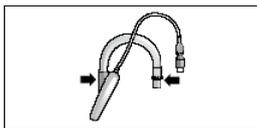

Figure 3: Airway kink test
- Flex the LMA Classic Excel™ airway tube up to, but not beyond 180°, pressing at the points and in the direction shown by the arrows (Figure 3). Should the tube kink, discard the airway.